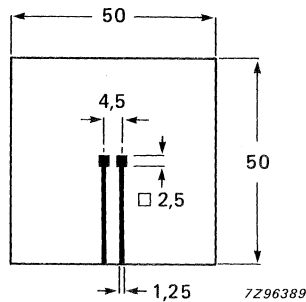

Fig. 2 Mounted on a printed-circuit board.
2. Thermal resistance from junction to ambient when mounted on a 1,5 mm thick epoxy-glass printed-circuit board; Cu-thickness $\geq 40 \text{ } \mu\text{m}$ (see Fig. 2)